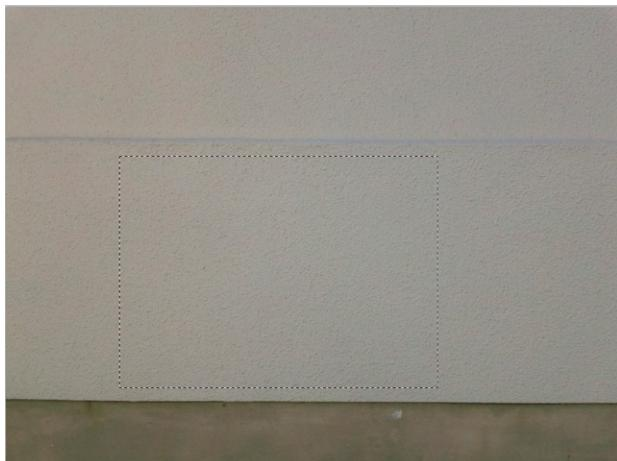

FIG B.1 Raw image of a stucco wall with the chunk of the photo used for texture.
Figure B.1 shows a photo of a chunk of a wall that I need to extract a stucco texture off of. The selected area is the chunk of that texture I copied and pasted into a new file.
Step 1: Open the original photograph (you can use mine or your own), and using the Rectangular Marquee Tool, select a chunk of texture that might work well for the texture base (Figure B.1).